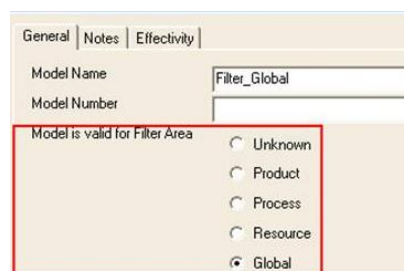

Figure 21: Area Information for Calculation Model
- 4) Change the attribute Calculation Model Area by selecting the radio button for different areas. *Please refer to the* Figure 21.